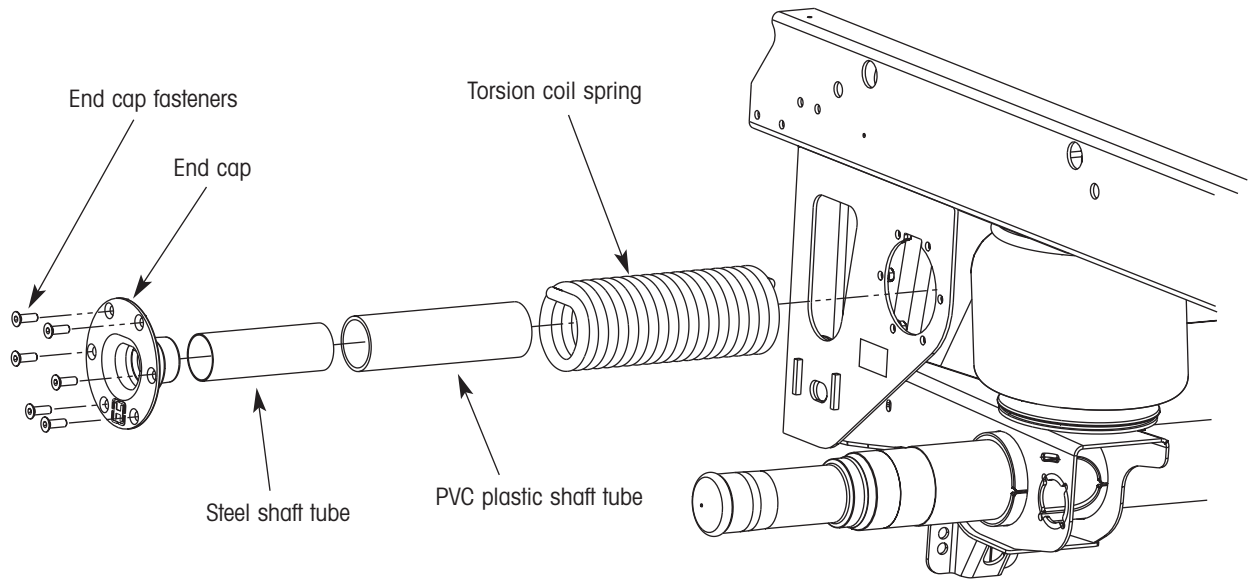

Figure 19. Removing/installing the torsion coil spring on models without the retainer shaft
- For models without the retainer shaft** With the torsion coil spring unloaded, remove the end cap fasteners and remove the end cap (figure 19).